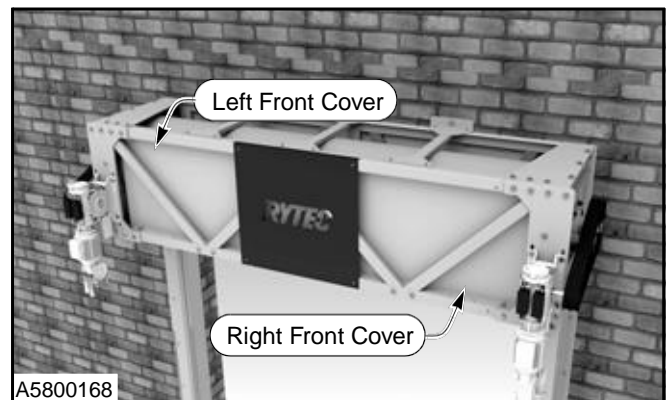

Figure 38
4. Secure left and right front covers to front truss using $\frac{1}{4}$ -14 x $\frac{3}{4}$ self-drilling screws. (See Figure 38)